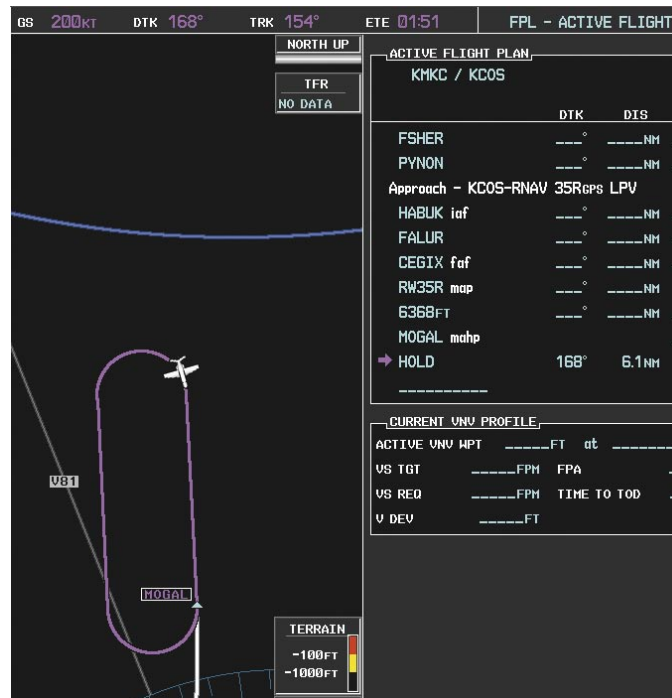

Figure 5-141 Hold Established
27) The aircraft maintains 10,000 feet while following the magenta line through the hold as in Figure 5-141.